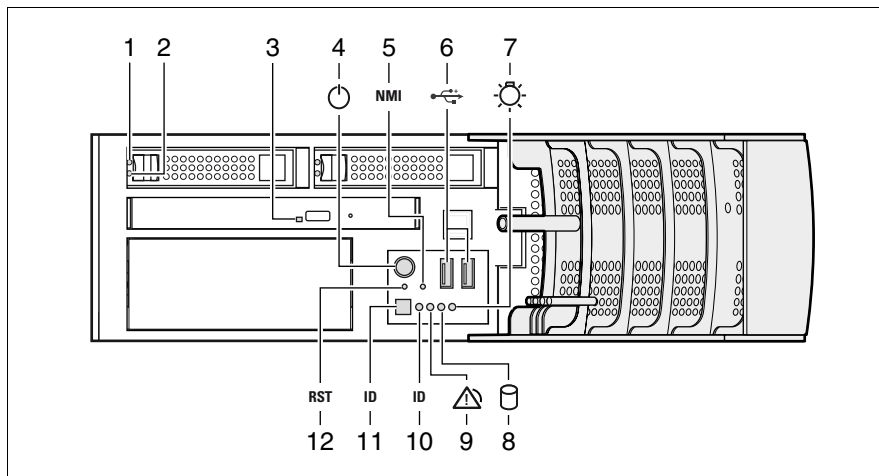

Figure 10: Front side (indicators and controls)
Two additional USB ports are located on the front of the server (see figure 10 on page 48).
The power-on indicator (item 7 in figure 10 on page 48) lights orange.
- ▶ Press the On/Off button (item 4 in figure 10 on page 48).
The power-on indicator lights green (item 7 in figure 10 on page 48).
Power-on indicator (item 7 in figure 10 on page 48) lights green.